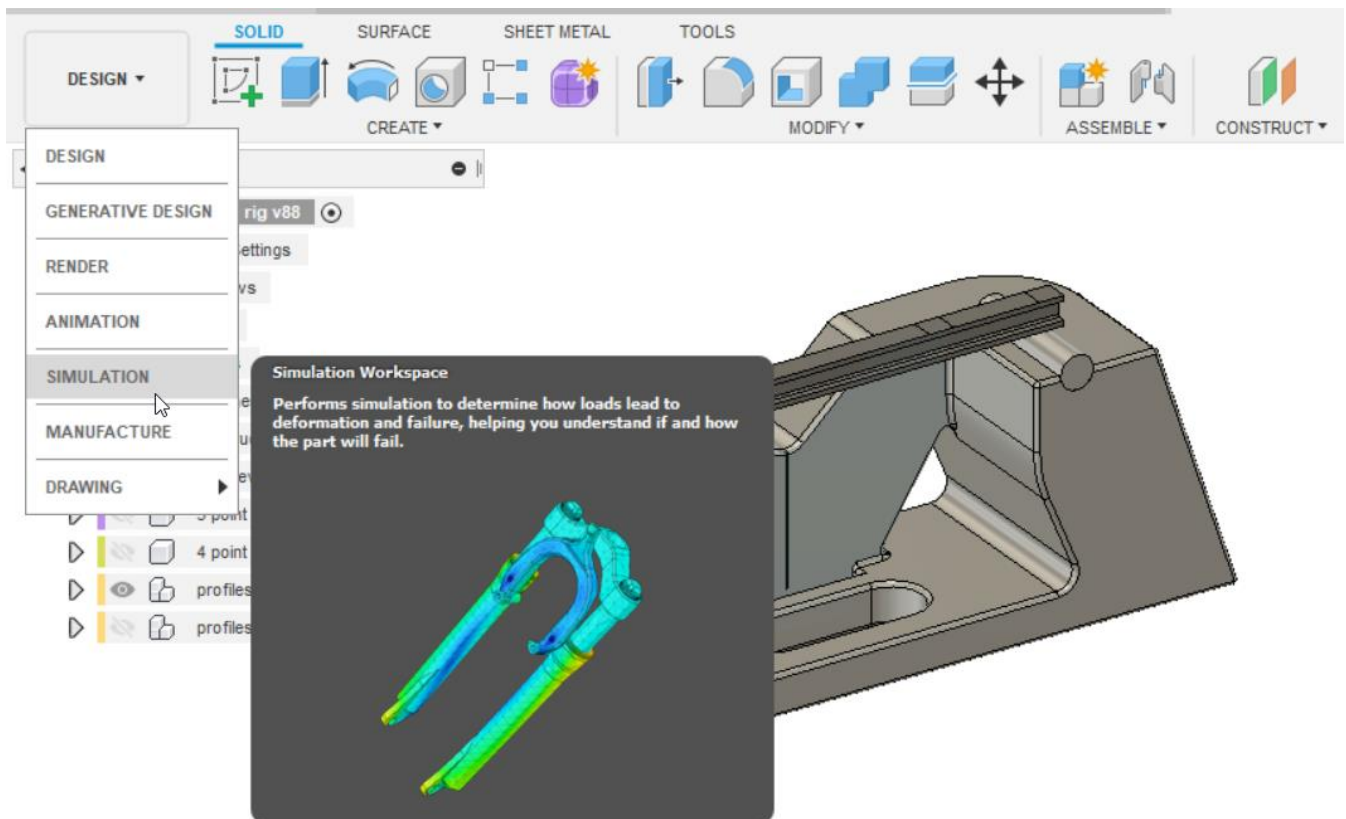

Figure 7. Activating the 'Simulation' environment
2. Switch to the simulation workspace found in the top left corner (Figure 7)